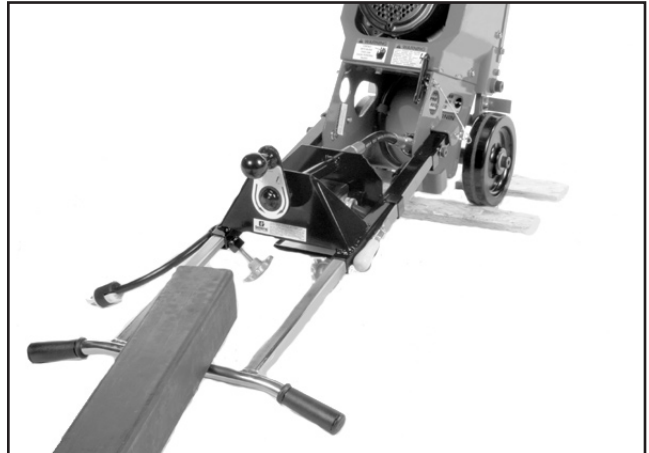

FIGURE 15
4) Tilt the Floor Stripper back until the operator handle comes in contact with the surface. The Floor Stripper may not be in a stable position in this configuration. To minimize the possibility of property damage and/or personal injury, properly secure an appropriate weight to the handle for added stability. Other means can also be utilized to support the frame and provide proper machine stability. Appropriate wheel chocks are also recommended. FIGURE 15.